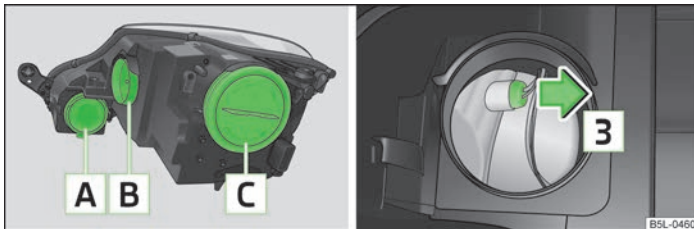

Fig. 167 Headlights: Removing the bulb arrangement/fixture for the parking light (Xenon headlight)
Overview of the location of the bulbs » Fig. 167.
- Remove the rubber cover **B** » Fig. 167.
- Remove the fixture in the direction of arrow **3** » Fig. 167.
- Remove the rubber cover » Fig. 167 on page 205.